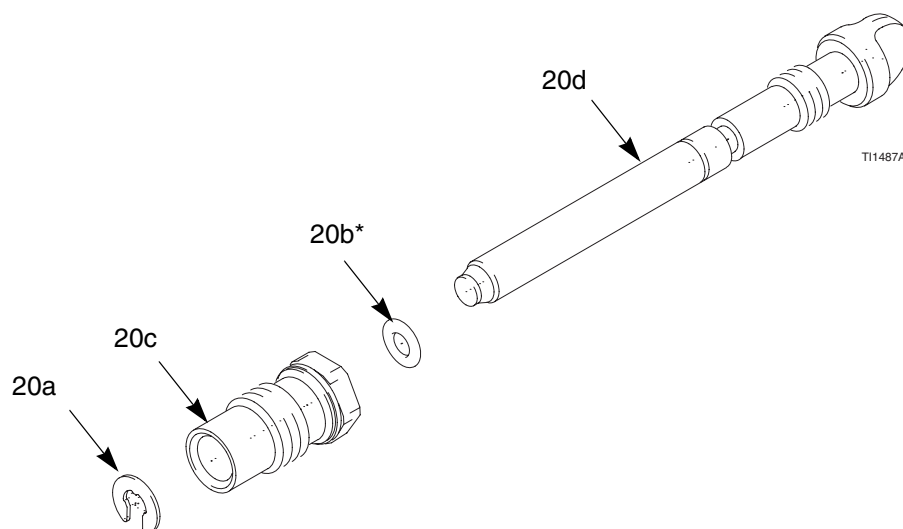

Fig. 19. Fan Air Adjustment Valve
3. Remove the retaining ring (20a). See FIG. 19.